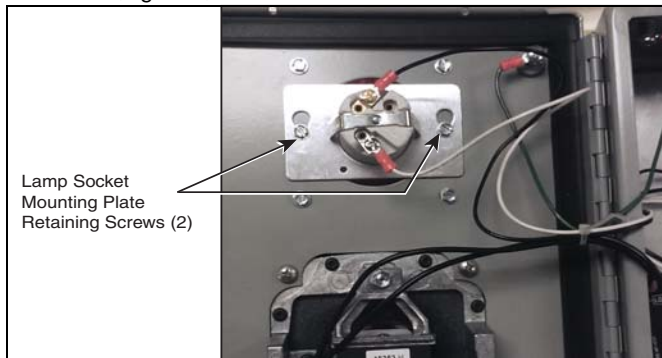

Figure 2. Remove Lamp Socket
2. Open the box door and notice the lamp socket in its mounting plate on the inside of the cover. Remove and set aside the two screws holding the lamp socket mounting plate to the inside of the door (Figure 2).